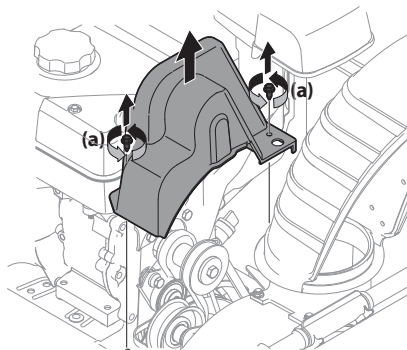

Figure 4-10
2. Remove plastic belt cover on front of engine by removing two self-tapping screws (a). See Figure 4-10.